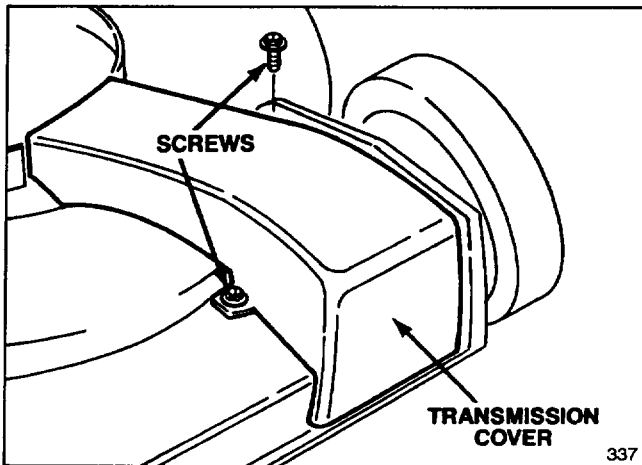

Figure 20
2. Remove two screws and lift off transmission cover (Fig. 20).
2. Remove transmission cover (Fig. 20).